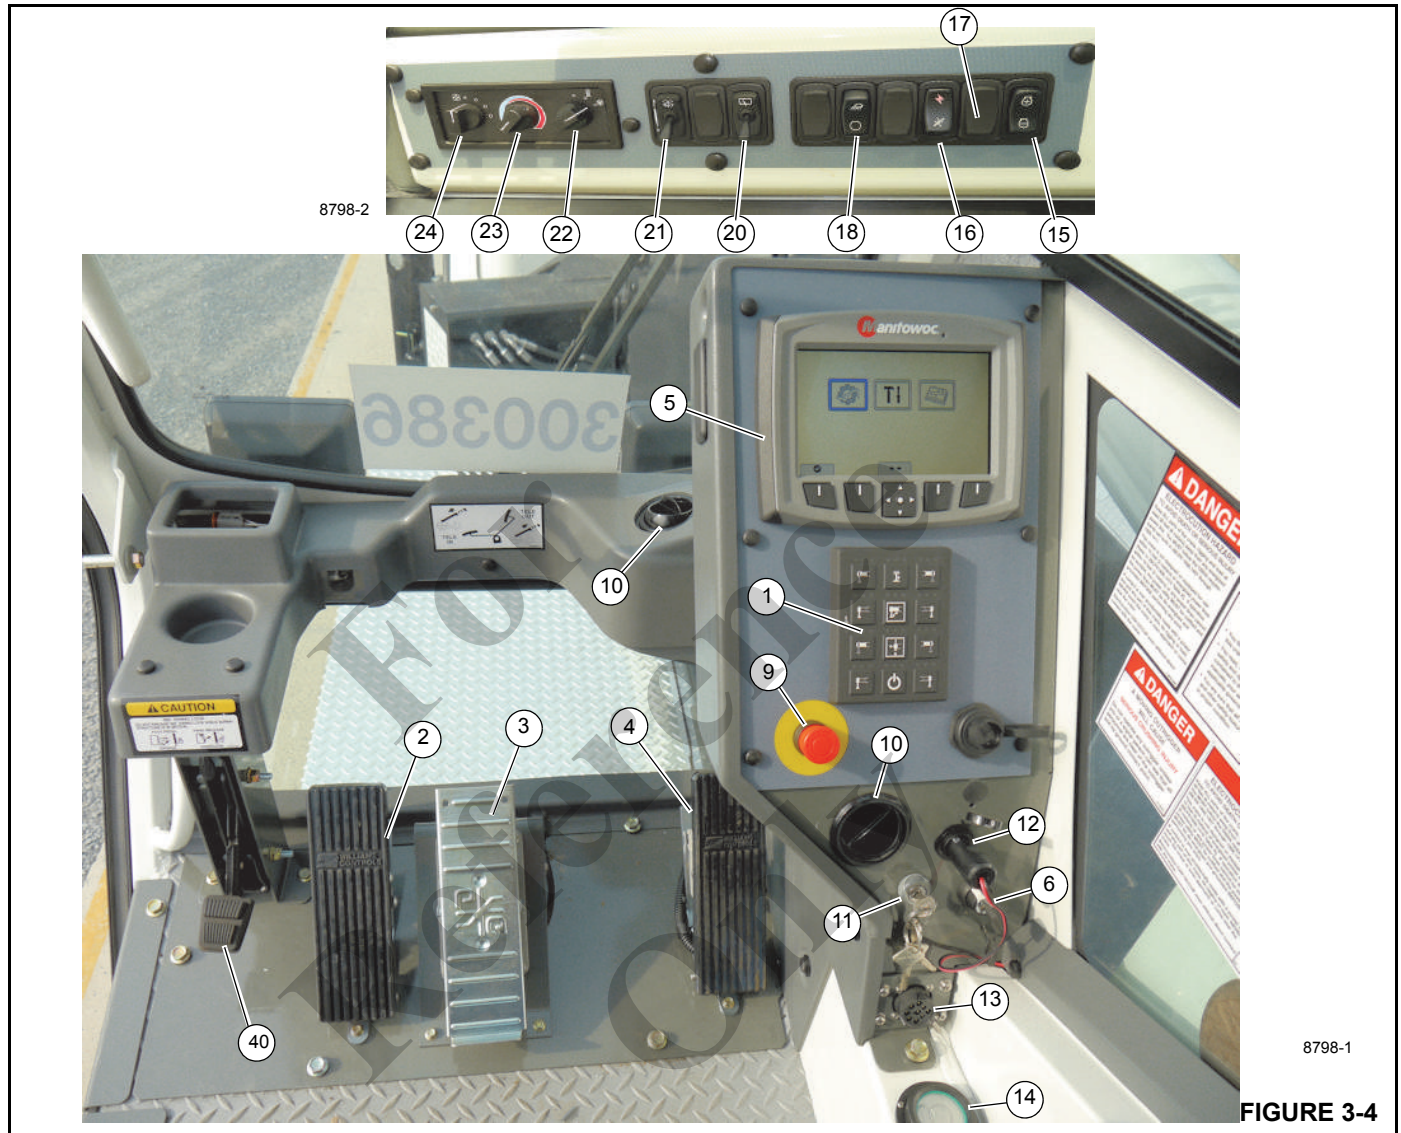

FIGURE 3-4
**NOTE:** The operator must be in the crane cab seat with left armrest lowered and crane power switch (Figure 3-4) ON for the crane cab outrigger controls to operate.
The crane controls are located in the crane cab and are used for all crane functions. See (Figure 3-4 & Figure 3-5) for crane cab item number (#) identification. For best control response, run the engine at governed RPM when operating the crane.
The swing brake pedal (2, Figure 3-4) is located on the left side of the crane cab floor. Pressing the pedal down applies brake to the turret and prevents rotation; releasing the pedal allows the turret to rotate freely.
The swing brake pedal (40, Figure 3-4) is located on the left side of the crane cab floor. The brake pedal is used to mechanically lock the turret in a given position (360° lock).
The crane is equipped with the boom telescope pedal only when the auxiliary hoist option is included. The telescope foot pedal (3, Figure 3-4) is located on the crane cab floor and is used to extend and retract the boom. Pushing down at the top of the pedal extends the boom out; pushing down at the bottom of the pedal telescopes the boom in.
The foot throttle (4, Figure 3-4) is located on the crane cab floor and is used to control the engine speed. Depress the foot throttle to accelerate the engine speed and release to return to idle.
The display panel (5 Figure 3-4) is for the Rated Capacity Limiter (RCL), see operating instructions and screen displays in this manual.
There are two RCL Bypass (Override) Switches (6, Figure 3-4) located in the crane cab.
The RCL bypass switch (6, Figure 3-4) located behind the cab seat, below the fuse relay panel, is an off/on switch and will bypass the overloaded controls until the switch is turned to the OFF position.
The crane emergency stop switch (9, Figure 3-4) is located on the cab console and is used to shut down the truck engine in an emergency. Push the red button in to shut down the engine, rotate the knob and pull out to resume normal operation.
The cab has air conditioner and heating vents (10, Figure 3-4), located on the control panel, behind the panel, under the seat and at head level.
The crane ignition switch (11, Figure 3-4) is located on the crane cab console and controls the truck engine and crane cab power. The ignition switch has three positions. OFF shuts down engine and cab power, ON activates truck engine ignition as well as all cab power, and Start is truck engine start.
This 12 volt accessory outlet (12, Figure 3-4) is located on the lower part of the front control panel and is designed to mate with most 12 volt adapter plugs.
The diagnostic connector (13, Figure 3-4) is located on the lower part of the front control panel. It is used for servicing the cab and crane's electrical system.
The bubble level indicator (14, Figure 3-4) is located on the right interior wall of the cab. The indicator provides the operator with a visual indication for determining the levelness of the machine.
The truck engine Hi/Low Switch (15, Figure 3-4) is located on the right overhead console.
The crane function power switch (16, Figure 3-4) is located on the right overhead console. The switch has two positions: OFF takes all power from the joy stick controllers on the arm rest and from the swing brake unlock (assuring the brake stays locked). The OFF position prevents inadvertent operation of these functions and assures the swing brake is set when the crane is not powered. The ON position will restore power to the joy stick controllers and the swing brake.
The radio remote switch (17, Figure 3-4) is used to enable the radio remote controls. The crane function power switch, and truck ignition must all be OFF before the crane can be operated with a radio remote control. The crane ignition switch must be in the ON position.
The work light switch (18, Figure 3-4) is a two position rocker switch, ON and OFF, located on the right overhead console. It turns the cab outside working lights on or off.
The skylight wiper switch (20, Figure 3-4) is located in the overhead console. This is a Hi/Low toggle type switch with 6 intermittent positions, intermittent timing is 2-15 seconds, wiper washer timing is 3 seconds.
The windshield wiper/washer switch (21, Figure 3-4) is located in the overhead console. This is a Hi/Low, rocker/toggle switch with 6 intermittent speed positions, ranging from 2 to 15 seconds and 2 constant low high speeds. Position 7 is low speed and position 8 is high speed. The wiper/washer timing is 3 seconds. The windshield washer is activated by depressing the top of the rocker on the windshield wiper switch.
Function Switch (22, Figure 3-4) allows operator to select either the heater or air conditioner.
Temperature Control (23, Figure 3-4) controls the temperature for both the heater and air conditioner.